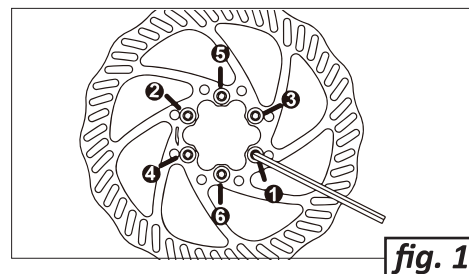
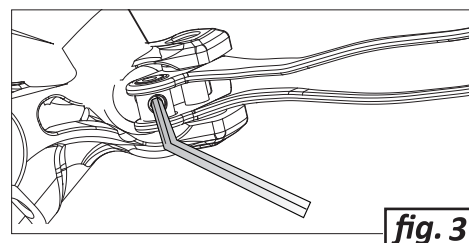

fig. 1
fig. 3
- To ensure a uniform distribution of load, follow the tightening sequence shown on figure 3 (fig.1).
- Once you have the lever assembly positioned appropriately, you can adjust the reach of the blade by 2mm Allen (hex) wrench to suit your preference (fig. 3)